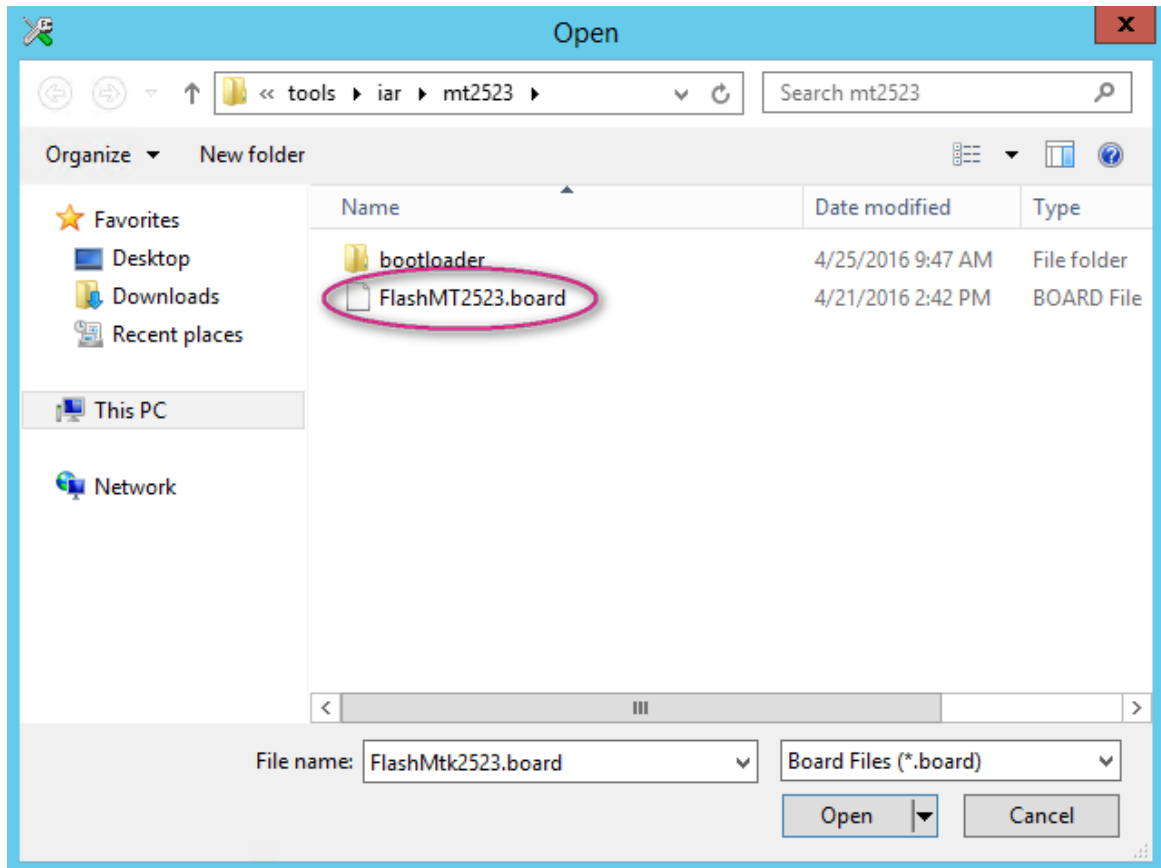

Figure 67. Select the board file
- a) The board file is located under <sdk_root>\tools\iar\mt2523, as shown in Figure 67.